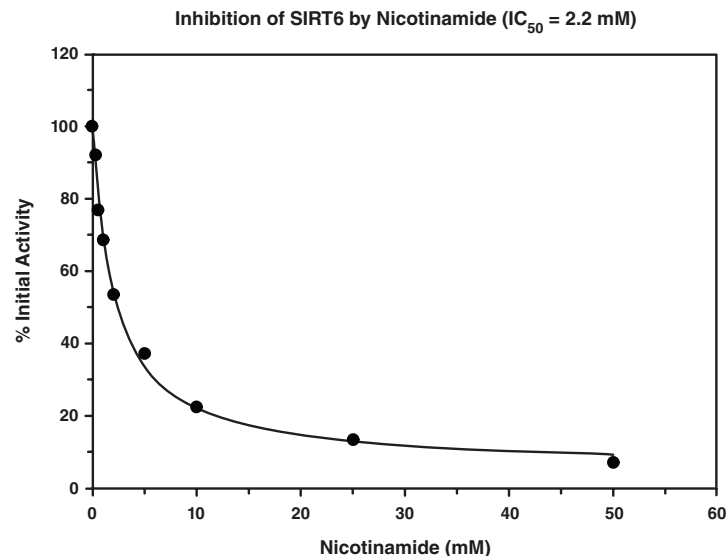

Figure 3. Inhibition of SIRT6 by nicotinamide ($IC_{50} = 2.2 \text{ mM}$)
- Either graph the Percent Inhibition or Percent Initial Activity as a function of the inhibitor concentration to determine the IC₅₀ value (concentration at which there was 50% inhibition). An example of SIRT6 inhibition by Nicotinamide, a sirtuin-specific inhibitor, is shown in Figure 3, on page 12.